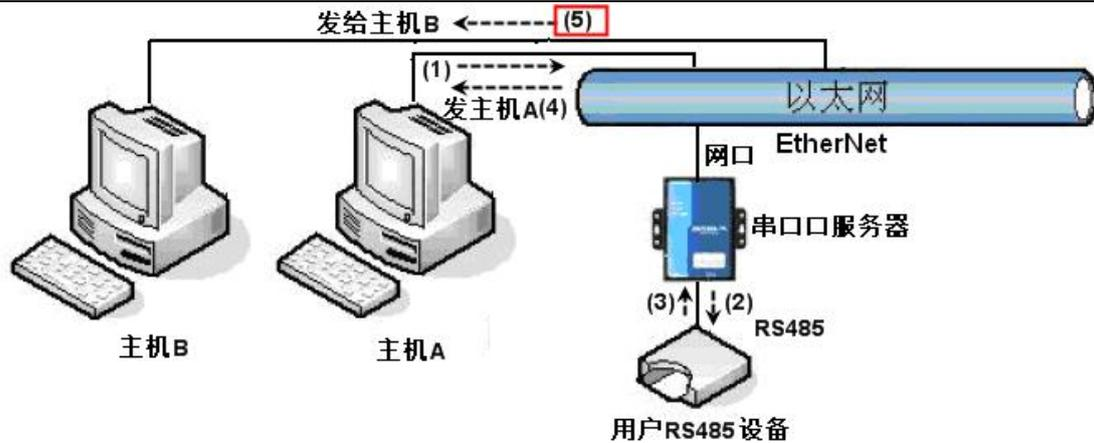

Figure 40 Multi-host function demonstration
As shown in Figure 40, when two hosts, host A and host B, are connected to the serial server at the same time, host A sends the command (1), the RS485 device receives the command (2), and the RS485 device returns the command (3). However, the port of the serial server sends the command (4) to host A and the command (5) to host B. Because host B did not send a query, but it also received a reply command (5), host B may generate a communication exception error. In multi-host mode, there is only instruction (4) but no instruction (5), because the serial server automatically remembers the host to be returned and only returns the instruction to the nearest communicating host. The query from host A is returned to host A, and the query from host B is returned to host B.
As shown in Figure 40, if the serial port device (RTU device) serves as the master and the network port device (Modbus TCP device) serves as the slave, and multiple network port slave devices exist simultaneously. In this case, you can connect the serial port server as a client to multiple network port devices by referring to 7.2.2 Connecting Multiple Servers from Clients.